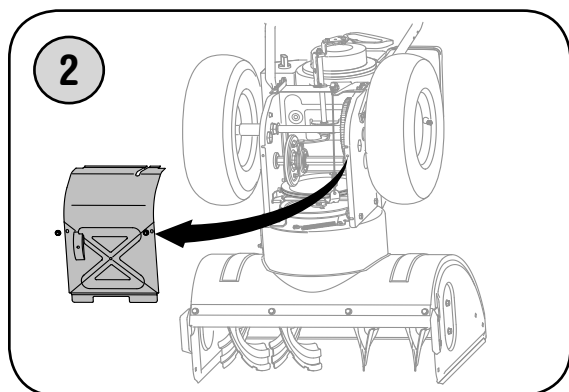

Figure 20
1. With the snow thrower tipped forward (be certain to drain gasoline or place plastic film under the gas cap if the snow thrower has already been operated), remove the frame cover underneath the snow thrower by removing the self-tapping screws. Refer to Figure 20 on page 17.